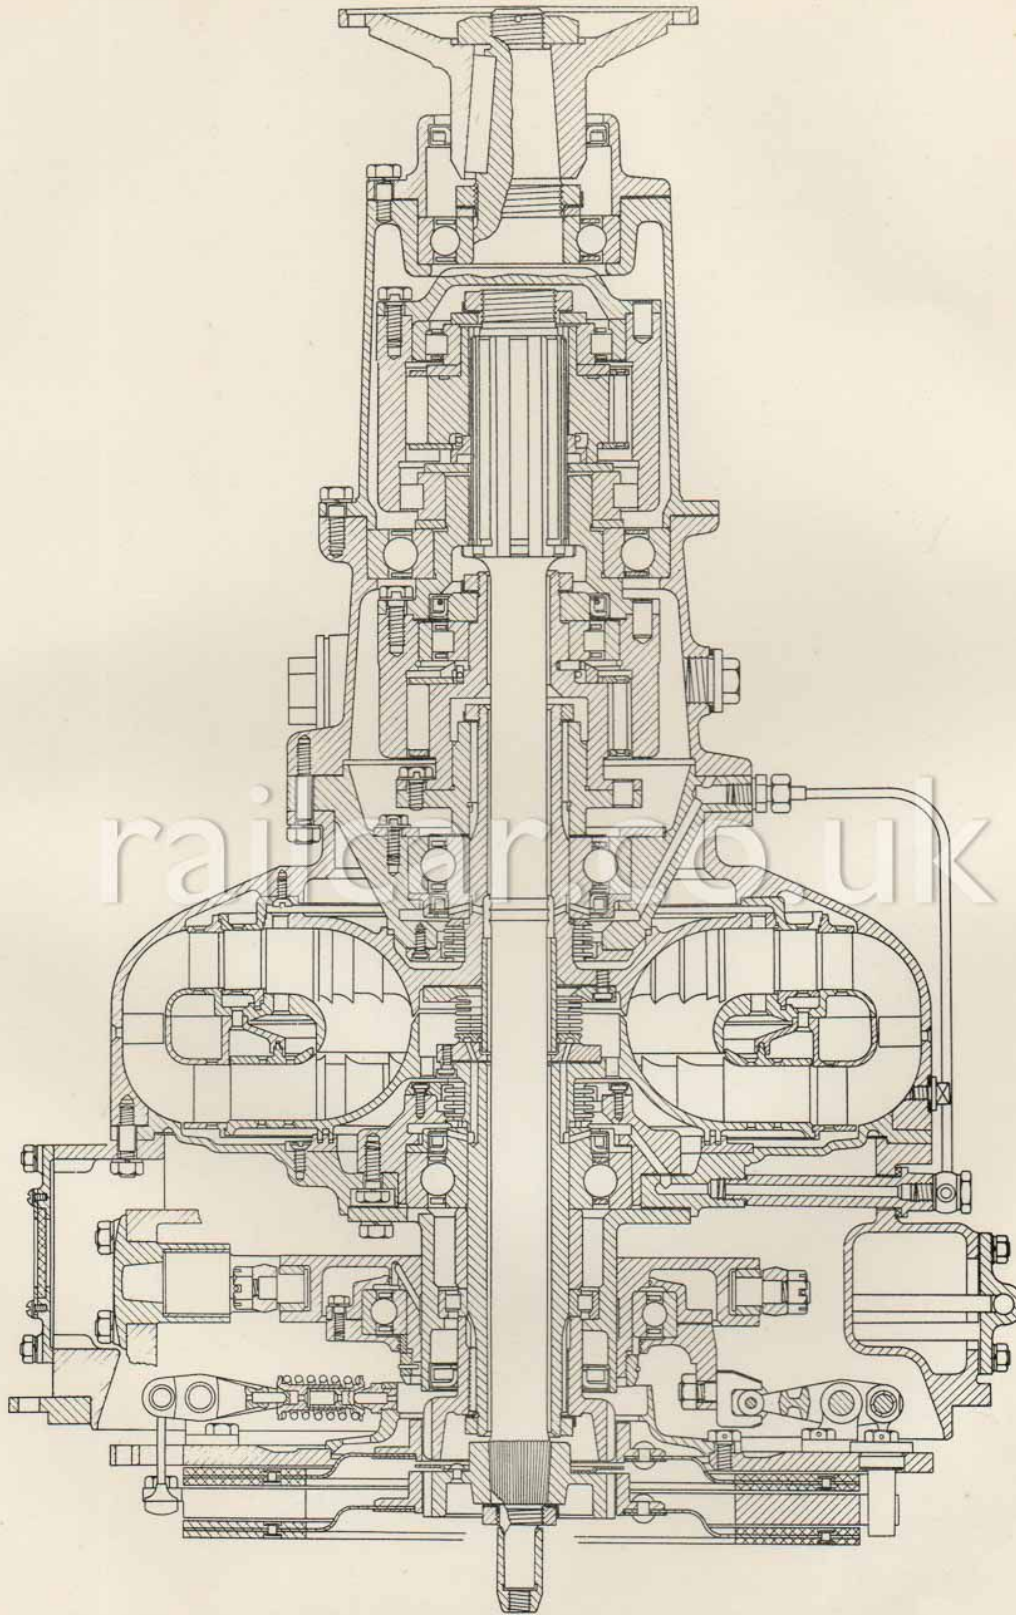
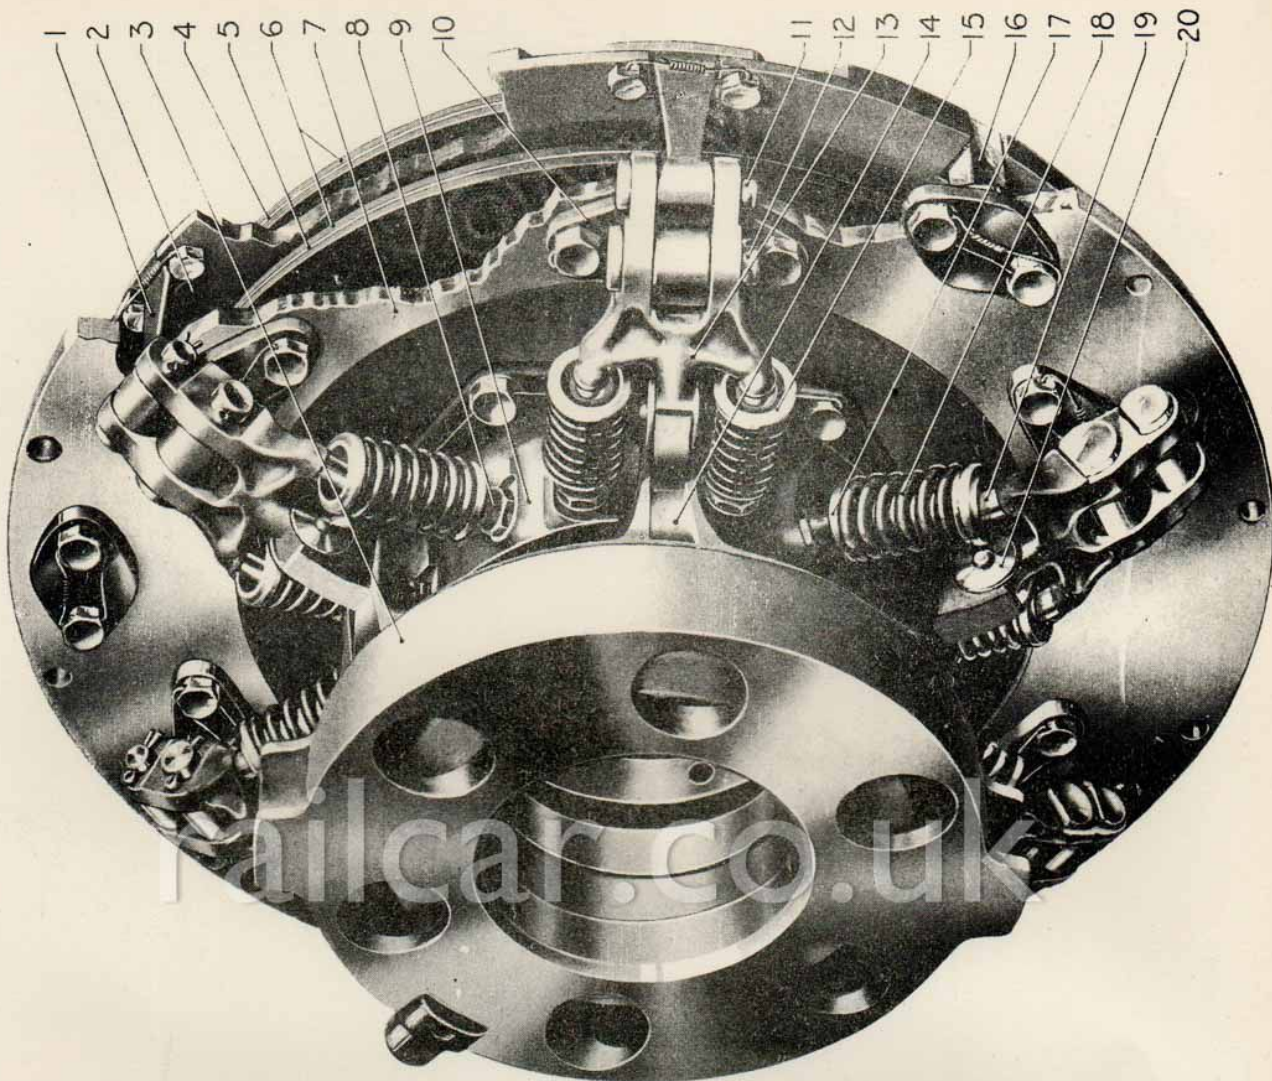
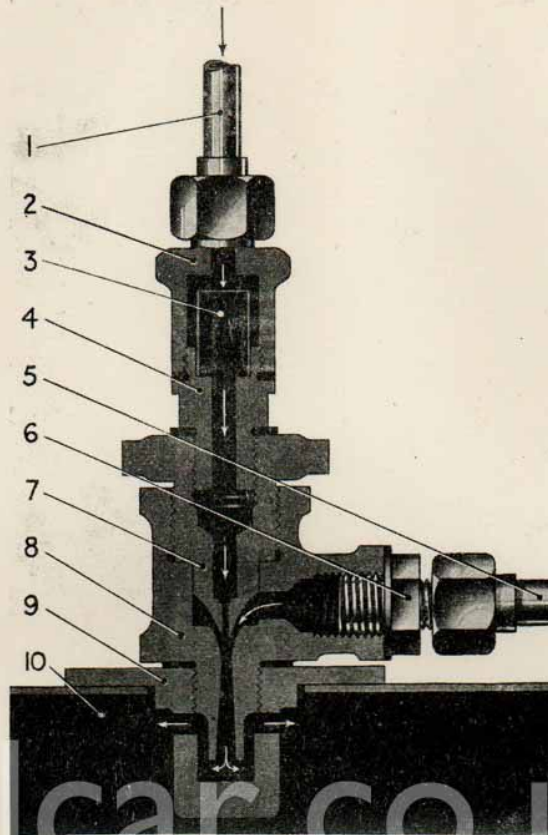

FIG. 2. SECTION THROUGH TORQUE CONVERTER.
FIG. 3.
FIG. 6.
The two plate clutches are carried on two large splined hubs, Fig. 2, keyed on the taper ends of two concentric shafts, a single pressure plate, housed between the two clutch plates, serving to engage the desired drive. The pressure is supplied by twelve springs, Fig. 3, operating toggle levers so arranged that as the liners wear the pressure increases, thus obviating slip due to part worn liners.
The inner clutch plate, Fig.2, is mounted on a solid shaft, which passes right through the unit and is
The pressure plate, Fig.3, is located on three driving pegs and is held in engagement by the twelve springs acting through the toggle levers, the tips of which are located in the withdrawal-housing jaws. The operating fork, Fig.2, is carried in bushes located in the clutch housing and operates through a large withdrawal bearing. The withdrawal bearing is lubricated from a nipple on the clutch housing.
Essentially the torque converter is a three-stage reaction turbine, the fluid operating in a closed circuit. The pump wheel, shown in Figs. 2 and 7, which is driven through the clutch already mentioned, is of the familiar centrifugal type. The turbine wheel is provided with three sets of blades and is mounted on a hollow shaft which transmits the drive through the free wheel. Two sets of guide blades are interposed between the first and second and second and third stages of the turbine wheel.
Excessive leakage of fluid to the bearings is prevented by special seals, Fig.2, a centre seal preventing short circuiting between the pump wheel and turbine wheel. A very slight leak is permitted to lubricate the seal faces and the fluid so passing flows through suitably arranged ducts and piping to a small sump. The fluid is evacuated from this sump and returned to the reserve tank by means of the ejector situated on top of the reserve tank. The operation of this ejector, shown in Fig.6, is automatic and is as follows. A pressure pipe from the converter is connected to the ejector nozzle. The fluid in the casing being under pressure, is forced along this pipe and through the nozzle, thus increasing its velocity, which causes a vacuum to be established in the annular space around the nozzle. This annular space is in communication with the sump by way of a pipe, and fluid that has leaked into the sump is lifted to the reserve tank. A gauze filter protects the nozzle from dirt.
This would allow fluid leaking past the seals to accumulate in the sump and overflow on to the road, thus emptying the reserve tank. The ejector, Fig.6, should be removed, after disconnecting the pipes, by unscrewing from the tank, and thoroughly cleaned. If the nozzle (7) Fig.6, is choked it should be blown clear with air pressure and the filter should be thoroughly cleaned as outlined under "Maintenance". Replace the ejector, connect up the pressure pipe and check the action by running the engine in converter drive, when a vacuum should be established at the suction connection (6).
If fluid is still lost the seals should be tested. Remove the bottom seal leakage pipe (see Fig.2), leaving the drain holes from the seals open. Run car up to